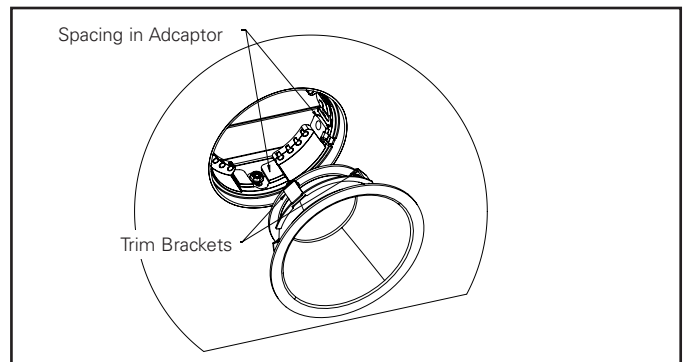

Figure 22.
8. In case of tall trim for downlight align trim such that trim bracket does not interfere with adapter (Refer Figure 22).